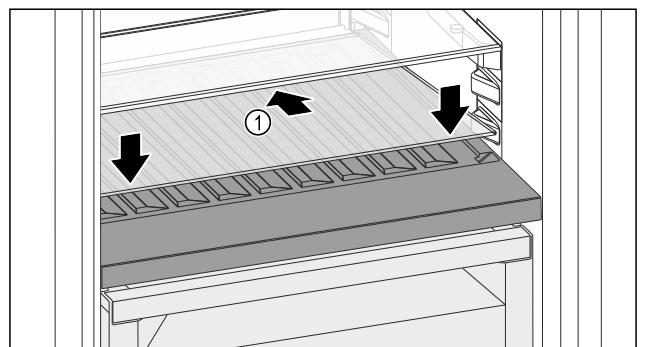

Fig. 146
- Place the glass shelf Fig. 146 (1) at an angle, sloping it downwards and backwards.
- Lower the glass shelf Fig. 146 (1) at the front.